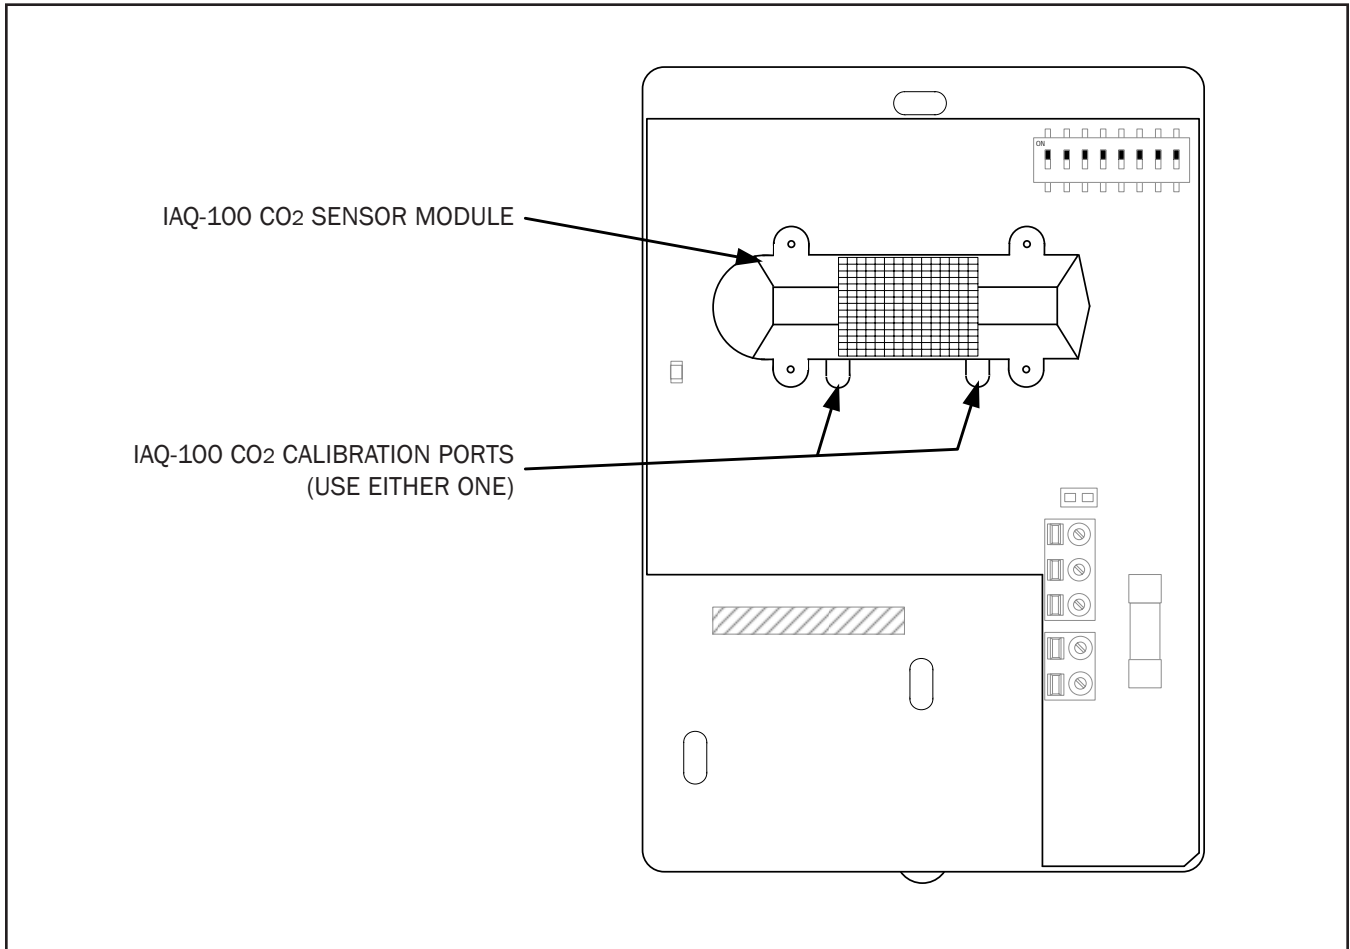

Figure 9. IAQ-100 CO₂ Calibration Ports
3. Remove the port covers from the IAQ-100 CO₂ calibration ports (Figure 9) and attach suitable tubing from the reference gas regulator to either port.